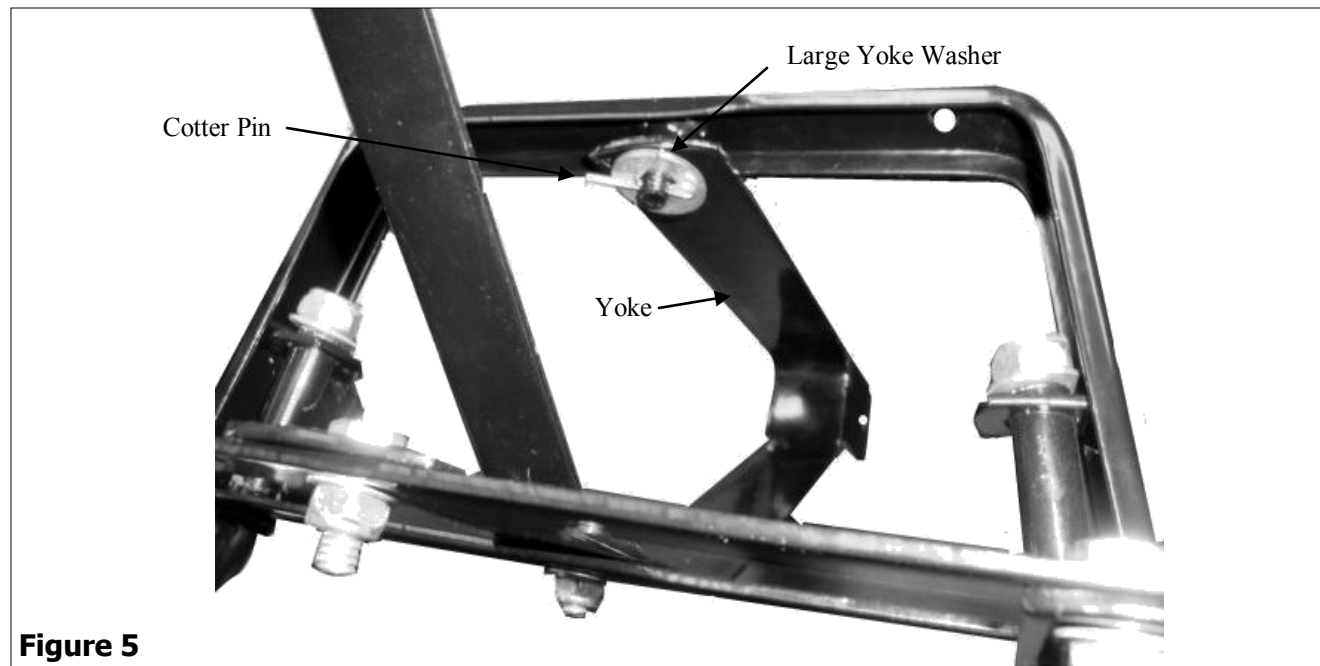

Figure 5
6. Attach the top of the Yoke to the appendage located on the under side of the Front Axle Support by first inserting Large Yoke Washer and then inserting Cotter Pin into the hole in the middle of the appendage. Use a flat head screwdriver to separate and bend the end of the cotter pin. See Figure 5.